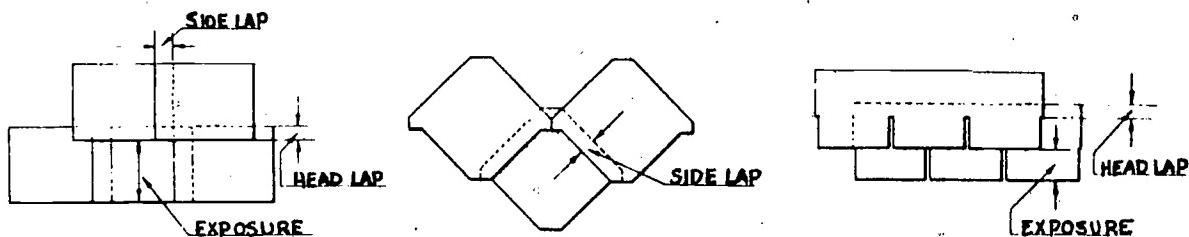

Fig. 10-3. Terms used in the application of roofing materials.
**Head Lap:** The shortest distance in inches from the lower edge of an overlapping shingle or sheet, to the roof deck, figure 10-3.